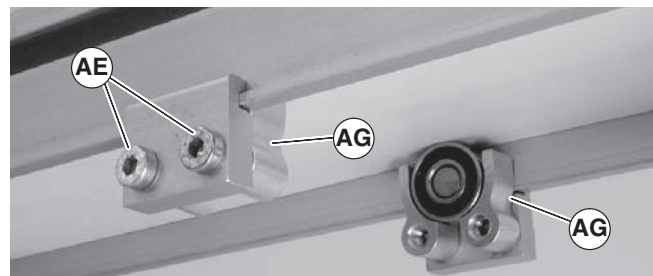

Figure 15
3. Install roller assemblies (Figure 15, item AG) as shown. Tighten screws (AE) to 60 in-lb (7 Nm).